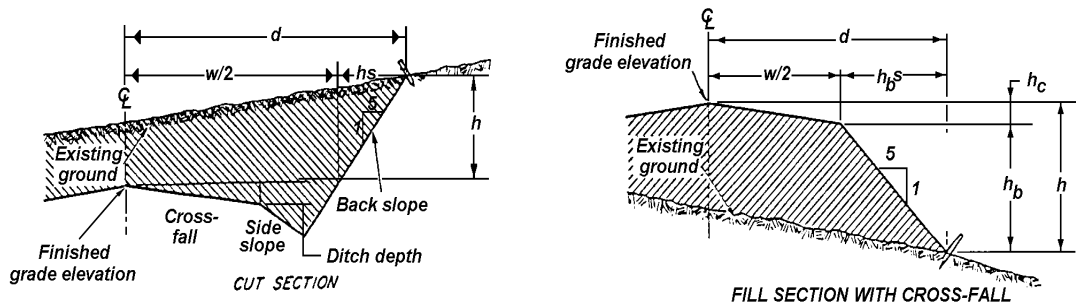

Figure 2
- d. Describe the procedures for a Trial and Error Method of placing slope stakes for Cut and Fill Section shown in figure 2.